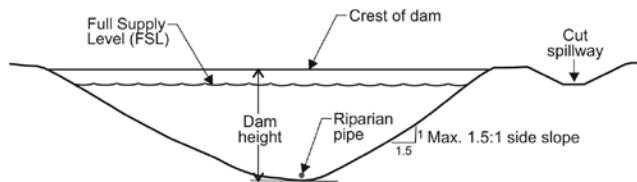

Figure 2. Elevation view of dam
Dams require an approval from Alberta Environment before construction. They also require a license under the *Water Act* legislation. A set of drawings similar to those shown in Figures 2, 3, and 4 in this factsheet are also required.
2. Topographical features such as slope, width and height of dam, as well as reservoir capacity will influence construction costs. A topographical survey of the proposed dam site will be required to estimate costs, prepare necessary information for licensing and provide construction details for the contractor. **Figure 2** shows a typical elevation view of a dam prepared from a survey.